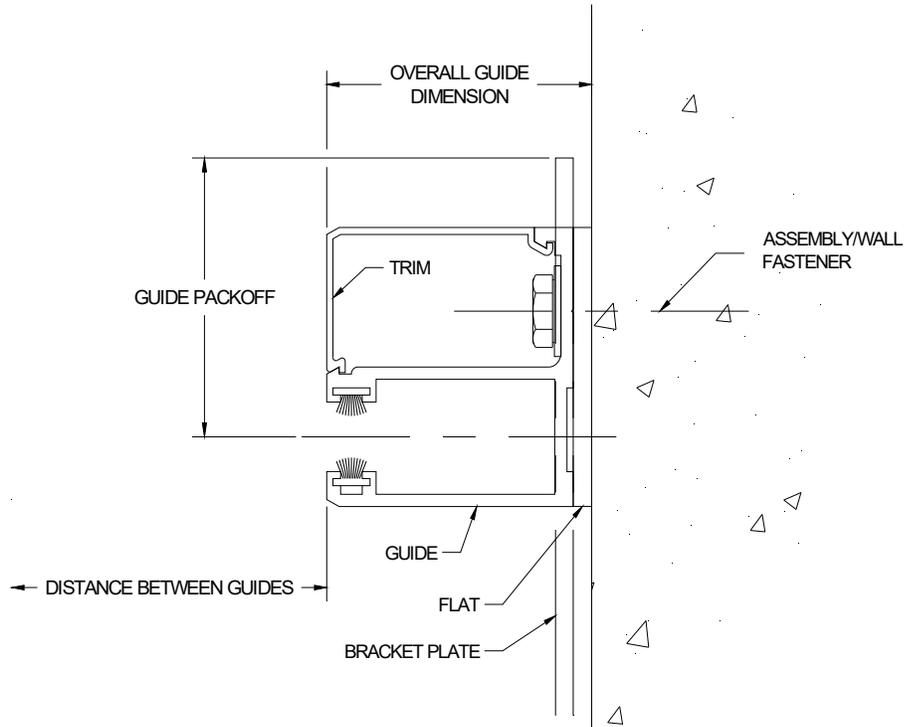

Figure 5.9 – Between Jamb with Back-Up Flat
- Between Jamb Units Mounting to Wall (Figures 5.9 - 5.10):